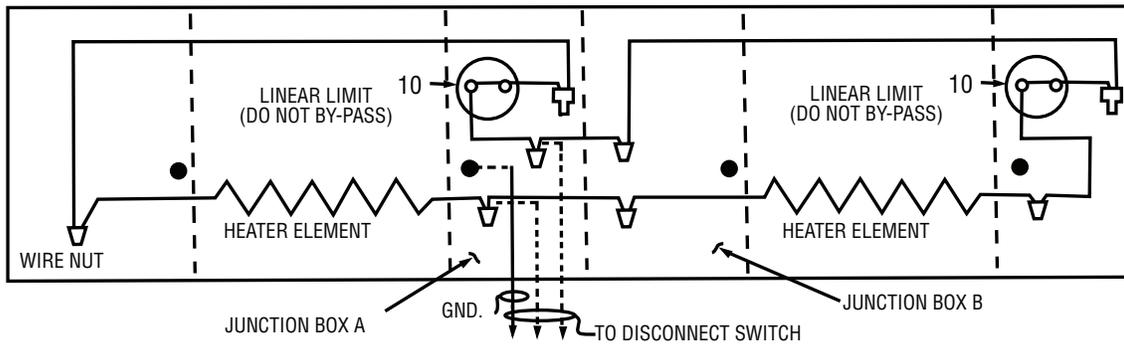

Figure 4. Two Unit Installation
1. The DB heater does not have an internal wire way. No more than two units can be wired as shown in Figure 4. If more than two heaters per circuit are desired, an external loop between sets must be provided.
3. Bring power supply to either junction box A or junction box B (see Figure 4), making electrical connections as shown. Connect ground wire to green grounding screw in junction box.